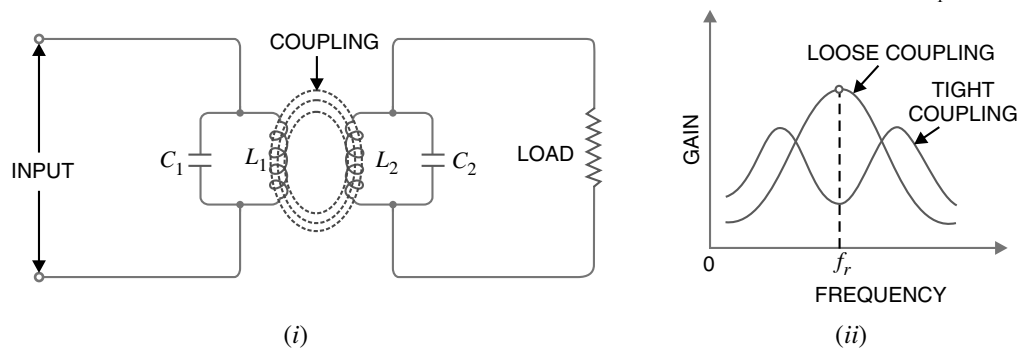

Fig. 13.16
**Frequency response.** The frequency response of a double tuned circuit depends upon the degree of coupling *i.e.* upon the amount of mutual inductance between the two tuned circuits. When coil  $L_2$  is coupled to coil  $L_1$  [See Fig. 13.16 (i)], a portion of load resistance is coupled into the primary tank circuit  $L_1C_1$  and affects the primary circuit in exactly the same manner as though a resistor had been added in series with the primary coil  $L_1$ .
When the coils are spaced apart, all the primary coil  $L_1$  flux will not link the secondary coil  $L_2$ . The coils are said to have *loose coupling*. Under such conditions, the resistance reflected from the load (*i.e.* secondary circuit) is small. The resonance curve will be sharp and the circuit  $Q$  is high as shown in Fig. 13.16 (ii). When the primary and secondary coils are very close together, they are said to have *tight coupling*. Under such conditions, the reflected resistance will be large and the circuit  $Q$  is lower. Two positions of gain maxima, one above and the other below the resonant frequency, are obtained.
If you refer to the frequency response of double-tuned circuit shown in Fig. 13.16 (ii), it is clear that bandwidth increases with the degree of coupling. Obviously, the determining